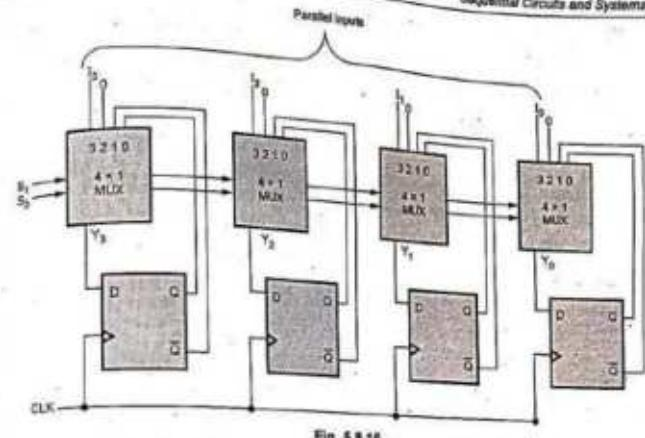

Fig. 5.8.16
**Solution :** The Fig. 5.8.16 shows the register that does the given operations.
(See Fig. 5.8.16 on next page)